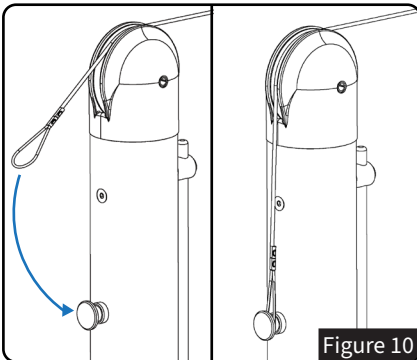

Figure 10
- Place one end of the top cord cable from the Heavy Weight Net (Part G) over the pulley on the Hook Post (E).
- Loop the cable around the net hook on the back of the post. See *Figure 10*.